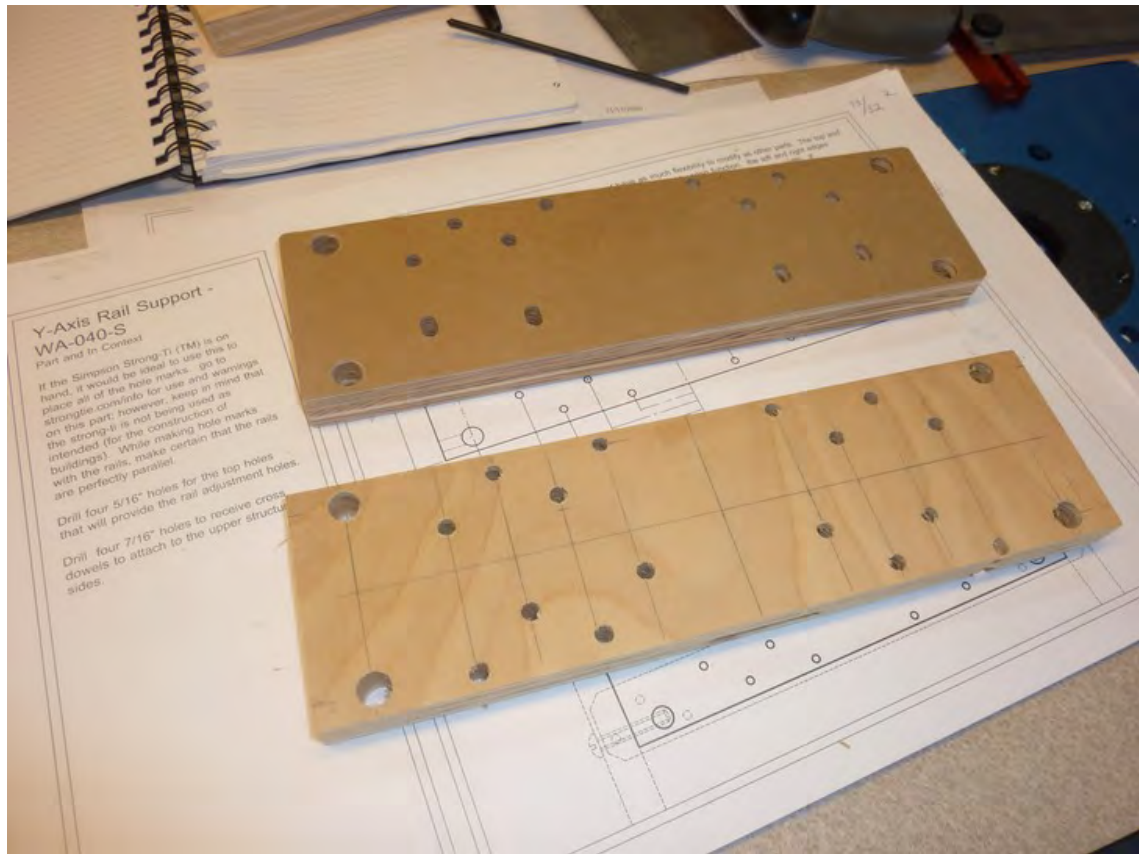

Figure 7-10. The Part H at the top was cut and drilled from MDO using a CNC machine.
■ **Note** Sharp-eyed readers may notice in Figure 7-10 that instead of the four larger diameter holes called for in the plans, there are eight small diameter holes. This was a mistake, plain and simple. But it still worked, so we didn't have to cut a new piece. Cut the four holes and you'll have wiggle room for attaching the Strong-Tie brackets and positioning them correctly.